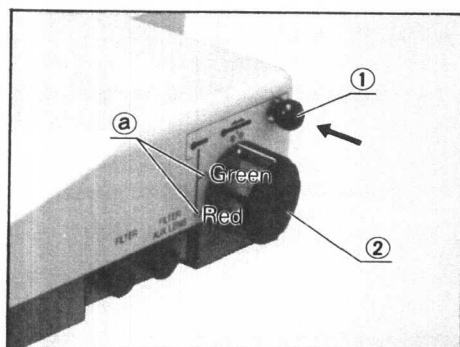

Fig. 20
- ① Push the illuminator selector knob ① in. (Fig. 20)
- ② Match the index line on the illuminator selector dial ② to the color-coded zoom magnification indication on the microscope body ③. (e.g. When the zoom magnification indication is 25, set the index line to the green dot.)